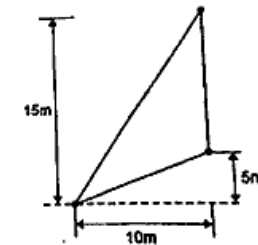

Fig. 14(a)
14. (a) For the triangular element as shown in the Fig. 14(a) determine the strain-displacement matrix $[B]$ and constitutive matrix $[D]$. Assume plane stress conditions. Take $\mu = 0.3$, $E = 30 \times 10^6 \text{ N/m}^2$ and thickness $t = 0.1 \text{ m}$. Also calculate the element stiffness matrix for the triangular element.